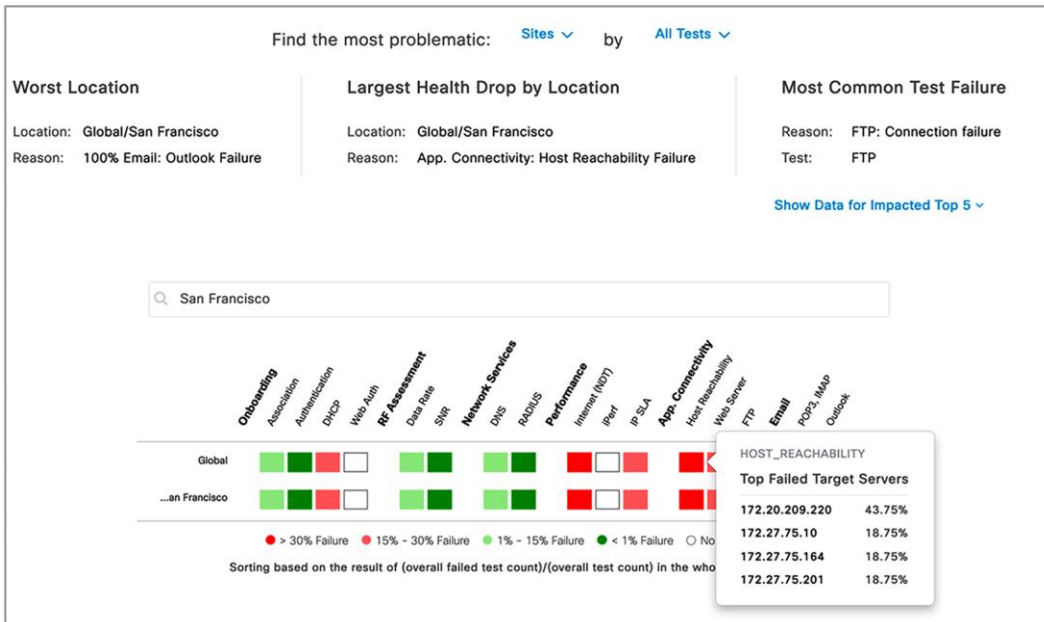

Figure 90. Wireless Sensors dashboard Test Results dashlet
1. Click each of the test types within the heatmap (Onboarding, RF Assessment, Network Services, Performance, App Connectivity, and Email) to see a drilled-down view of the test results (Figure 90).
2. The top half of the Test Results dashlet displays a summary of the test results (Figure 90).
3. To filter the insights by specific locations and/or tests, click the Sites and All Tests drop-down menus to make a selection (Figure 90).
4. View the heatmap in the bottom half of the Test Results dashlet to visualize the sensor test breakdown for each configured test (Figure 90).
5. To search and filter the heatmap, type a location or sensor name in the search bar located above the heatmap (Figure 90).